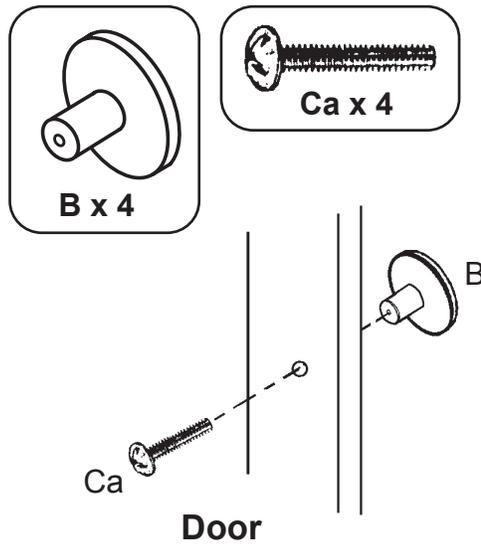

Fig. 7
7. Attach the Knobs (B) to the Doors (A) with #8x1-1/2 " Machine Screws Tuscan (Ca). See Figure 7.